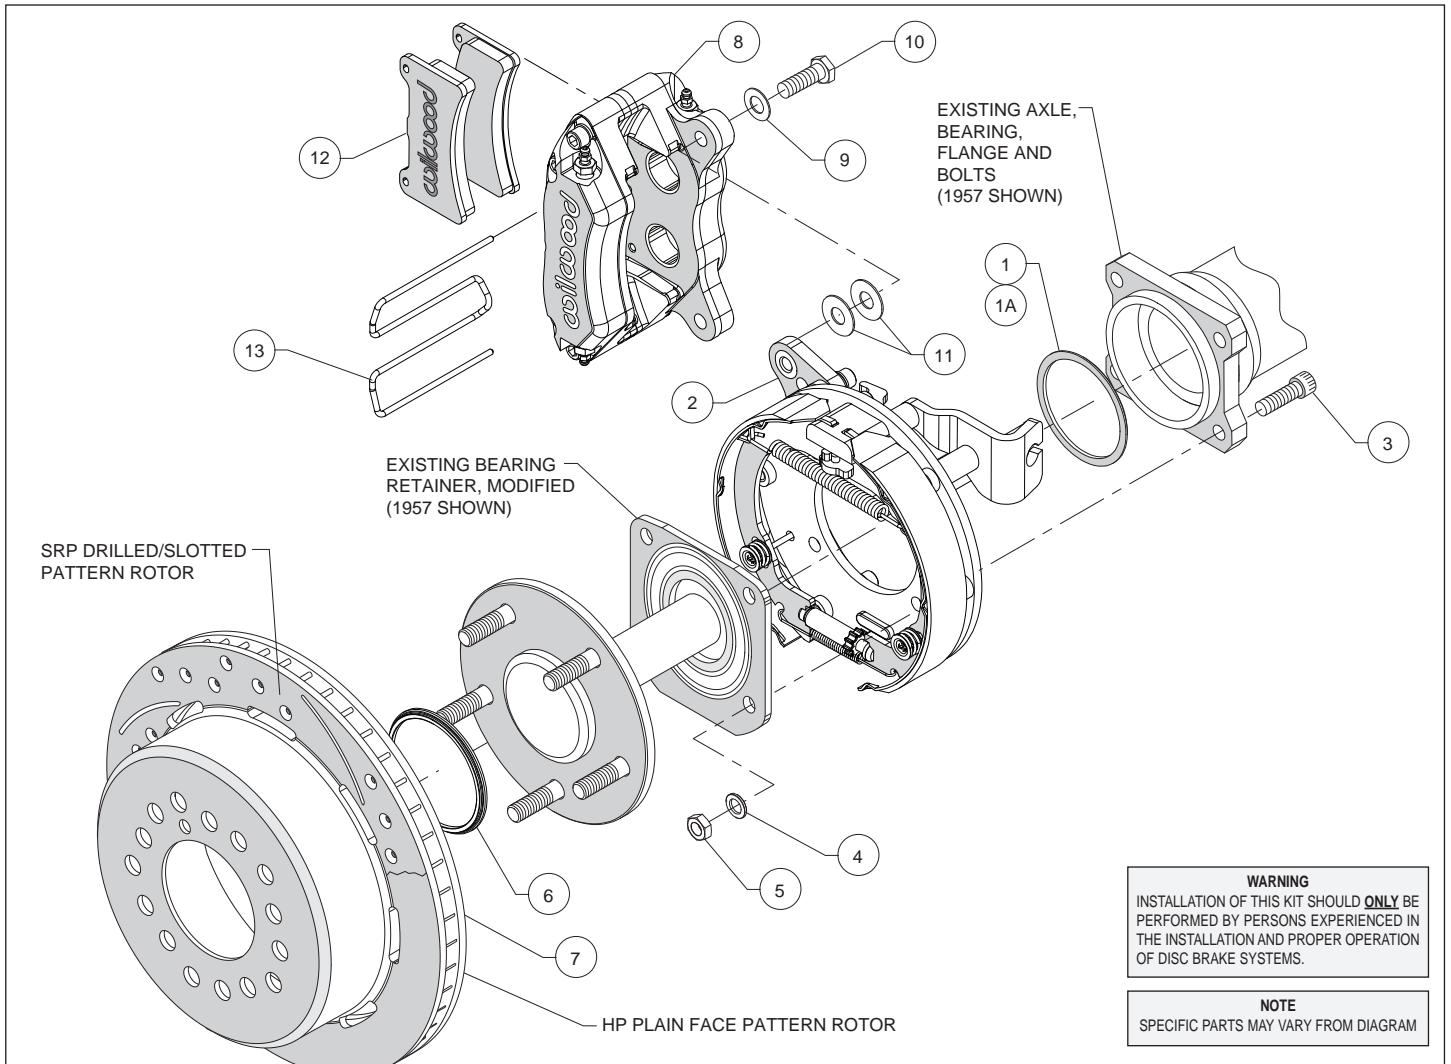
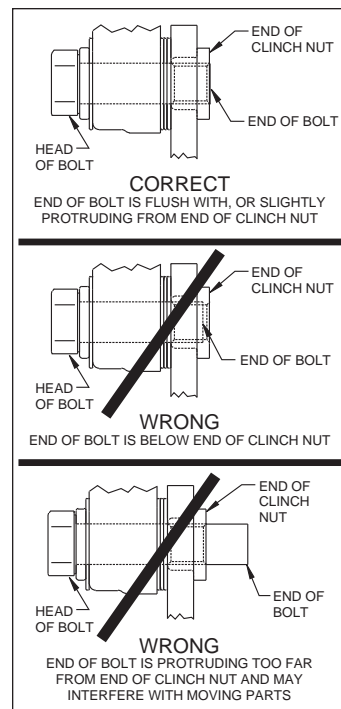

Figure 1. Typical Installation Configuration
Figure 5. Clinch Nut Engagement Diagram
Assembly Instructions (numbers in parenthesis refer to the parts list, and Figure 1 on the preceding pages): **CAUTION:** All mounting bolts must fully engage clinch nuts. Be sure to check that all bolts are either flush or protruding through flanged side of clinch nut after shimming, Figure 5.
- With the bearing retainer in place, slide the caliper mounting bracket assembly (2) onto the axle as shown in Figure 1 and Photo 1. Install axle shim (1 for model year 1955/56) or (1A for 1957) over axle shaft with bearing chamfer facing toward the axle housing, as shown in Photo 2.
- Slide the axle and parking brake assembly into the axle housing ensuring that the backing plate is flush with the axle housing flange and the bearing retainer is flush with the backing plate. Secure OEM bearing retainer using bolts (3), washers (4) and lock nuts (5), as shown in Figure 1. Lock nuts (5) and washers (4) that retain the caliper mounting bracket assembly (2) should be on the wheel side of the bracket, Figure 1. Torque nuts to 40 ft-lbs.
- Slide the rotor registration adapter (6) onto the axle register on the axle flange with the smaller O.D. facing toward the rotor/hat (7), Photo 3. Align the correct hole pattern in the rotor/hat with the stud pattern on the axle flange and slide into place, Figure 1 and Photo 4. **NOTE:** The rotor/hat must fit flush against the axle flange or excessive rotor run out may result. Install three lug nuts (finger tight) to keep the rotor/hat assembly in place while continuing with the installation. **NOTE:** Some OEM and after market axles come with stud sizes larger than 0.50" diameter. Verify stud size and have a qualified machine shop drill the bolt circle of the hat/rotor to the correct stud size, if necessary.
- NOTE:** Please reference the caution statement at the beginning of the assembly instructions. Mount the caliper (8) onto the caliper mounting bracket (2) using bolts (10) and washers (9), as shown in Figure 1. Initially place two .035" thick shims (11) on each bolt between the caliper and the bracket, Photo 5. Temporarily tighten the mounting bolts and view the rotor (7) through the top opening of the caliper. The rotor should be centered in the caliper, Photo 6. If not, adjust by adding or subtracting shims between the bracket and the caliper. Always use the same amount of shims on each of the two mounting bolts. **NOTE:** The end of each bolt must be flush with or slightly protruding from the head of the clinch nut, as shown in Figure 5. If necessary place spare shims between washer (9) and caliper mounting ear to achieve the proper clinch nut engagement. Once the caliper alignment and clinch nut engagement are correct, remove the bolts one at a time, apply red *Loctite*® 271 to bolt threads, and torque to 40 ft-lb.